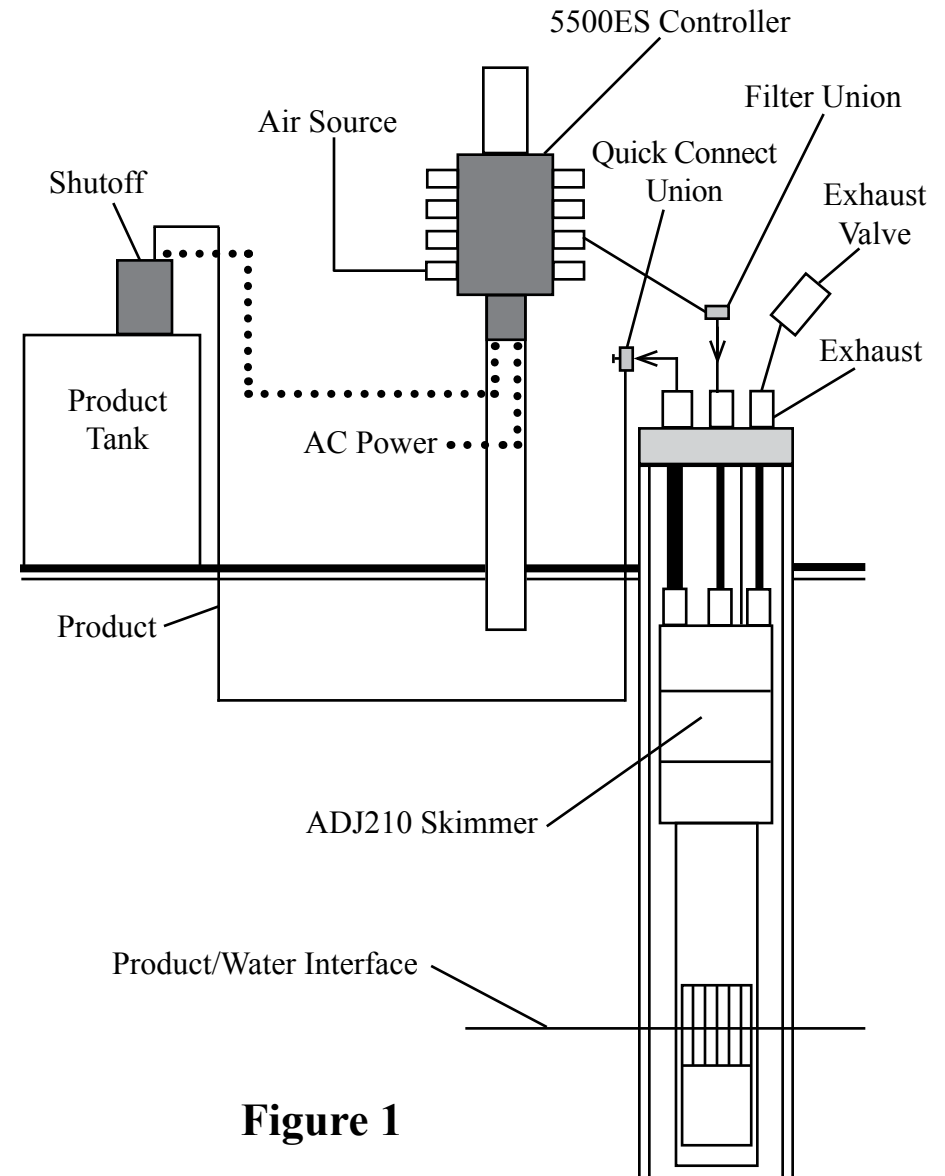
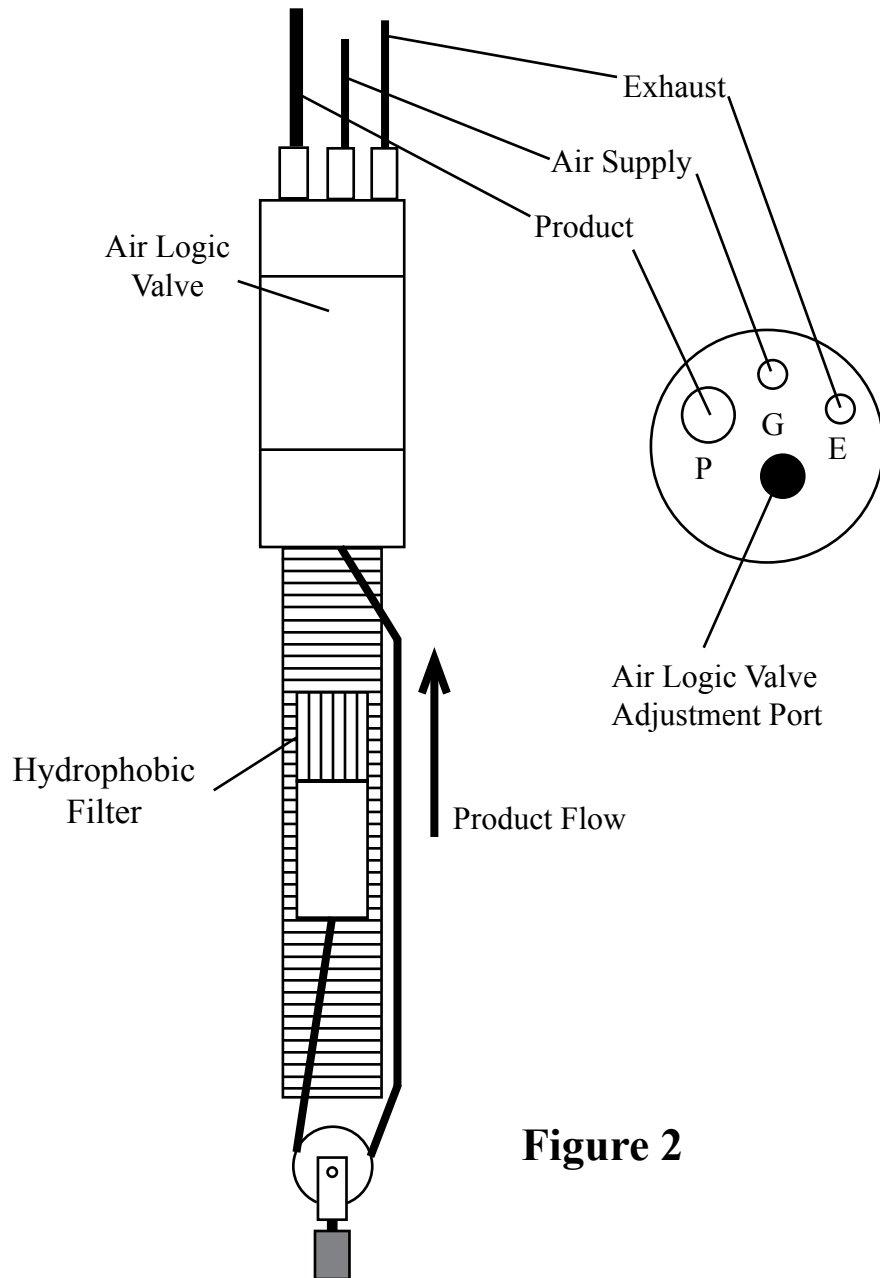

Figure 1
Figure 2
The system (Figure 1) relates to floating hydrocarbon recovery in wells two inches in diameter and larger. This system includes: an intrinsically safe ADJ210 pneumatic Smart Skimmer (Figure 2) which removes only the product to a sheen down to 200 feet deep; and a programmable Controller Model 5500ES which operates up to 16 skimmers intermittently, records run time, and has a high level tank shutoff assembly.
STEP 7. Position the skimmer and well cap on the ground near the well. Cut a length of 1/4" OD air supply tubing to cover the distance from the top of the well down to water/product interface, plus 5 feet. **NOTE:** If the skimmer is over 70 feet deep, use 3/8" OD air supply tubing in stead of 1/4" OD tubing. Slide enough tubing through the well cap and attach the end of the tubing to the top of the skimmer tube fitting labeled "G" (Figure 2). If the product thickness is greater than 1 foot, position the center of the skimmer screen 1 foot below top of product. If the product thickness is less than 1 foot, position the center of the skimmer screen at the water/product interface.
STEP 8. Cut a length of 5/16" OD product tubing same length as the air supply line. Install 5/16" OD product tubing through the well cap tube fitting labeled "P" (Figure 2). Slide enough tubing through the well cap and attach the end of the tubing to the top of the skimmer tube fitting labeled "P". **CAUTION:** Do not kink the tubing.